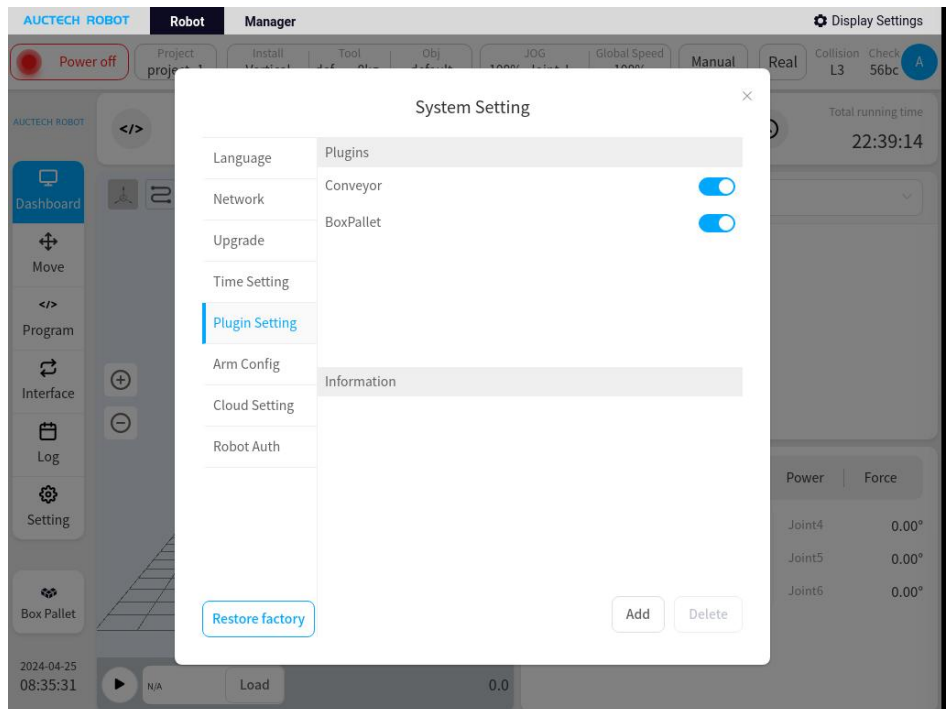

Figure 4
7、 After the plug-in package is installed, φ will be marked as shown in Figure 4. Newly installed plug-in packages will be enabled by default at κ . λ displays the name and version of the current plug-in package.